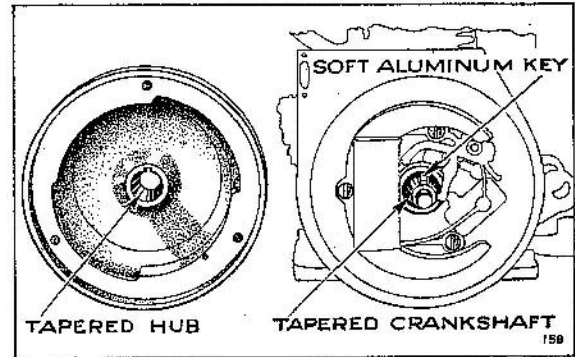
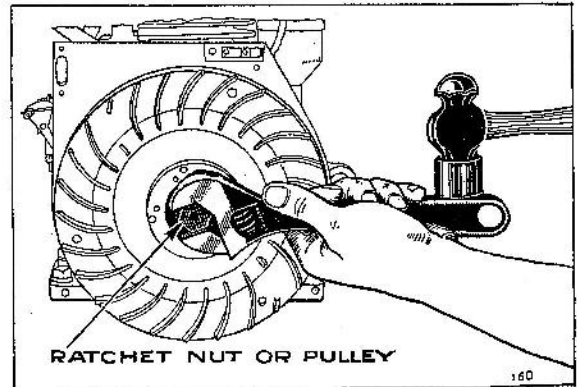

FIG. 6—MAGNETO FLYWHEEL AND CRANKSHAFT TAPER
FIG. 7—TIGHTENING FLYWHEEL
38. Replacing the Flywheel. When completing any necessary work, replace the flywheel, being sure to use the soft flywheel key supplied. The key is only for the purpose of locating the flywheel on the crankshaft in the correct position so that the magneto will be correctly timed. The flywheel is driven, however, by being a tight taper fit on the taper of the crankshaft. This taper is shown in Fig. 6. In case the flywheel should come loose, the soft flywheel key is designed to shear off so that no damage will be done. Therefore, a STEEL KEY SHOULD NEVER BE USED. After the flywheel is in place, has been located with the key and nut or pulley has been screwed up, this nut or pulley should be made VERY TIGHT. This can be done as shown in Fig. 7 by striking the wrench handle or bar with a hammer.